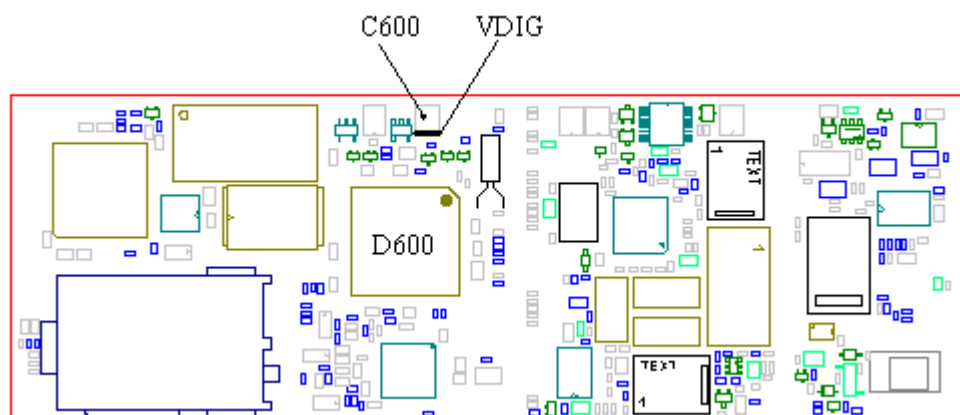

Fig. 8.2
* If not, replace D600 (class B, fig. 8.2).
- If the resistance is less than 25 kohms, replace D600 (class B, fig. 8.2).
Measure VDIG (~3.2V) on C600 (fig. 8.2).
- If the resistance is correct, measure the resistance from C600 (fig. 8.2) to marked side of the resistors of the row (R630-R634, in this case R630, should be ~0 ohms) and from the other side of the resistor to the marked side of the keyboard pads (~0 ohms).